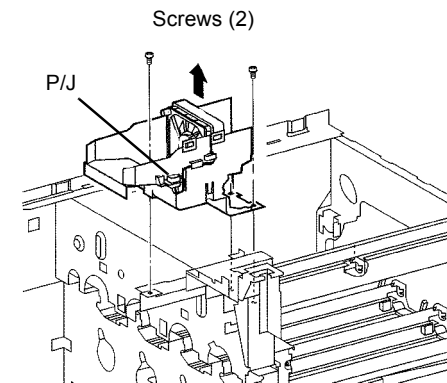

Figure 1 Removing Fuser Cooling Fan
5. Remove Fuser Cooling Fan (Figure 1).
- b. Remove Screws (2) and lift to remove Fuser Cooling Fan.